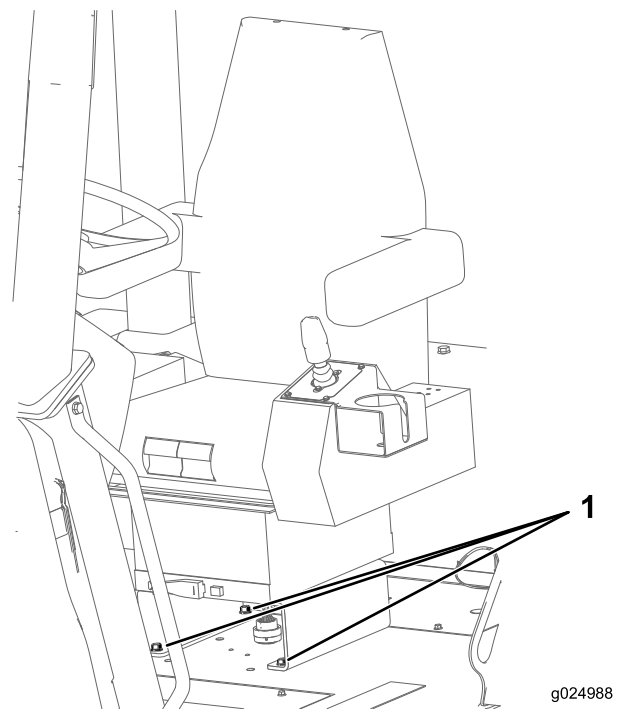

Figure 113
1. Check that the bolts that secure the seat to the chassis of the machine are torqued to 27 to 34 N-m (20 to 25 in-lb); refer to Figure 113.